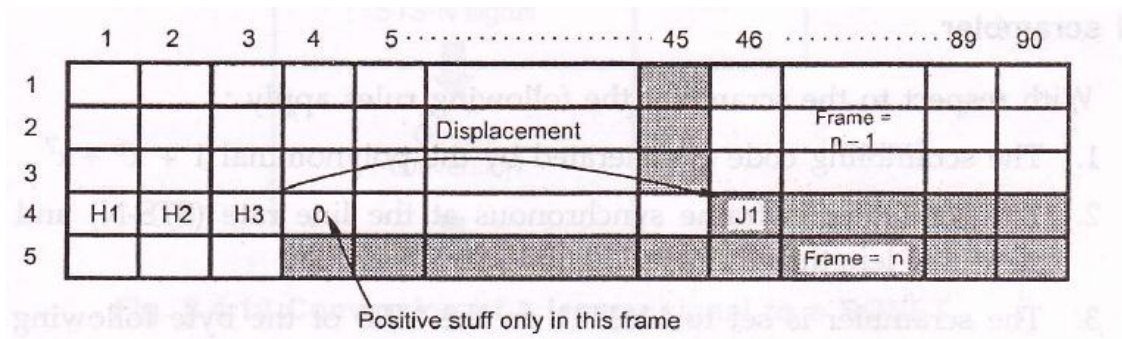

**Fig. 8.4.16 STS-1 No frequency justification**
- When the frame rate of the STE SPE is less than the transport overhead (OH), the alignment of the SPE is skipped back by a byte. This is known as **positive justification**.
- Fig. 8.4.16 shows no frequency justification.
- **Example :** Consider that the H1, H2 and H3 bytes are as in Fig. 8.4.16. In this case, the H1 and H2 contain a NDF value of 0110, indicating that no change in the pointer has occurred.